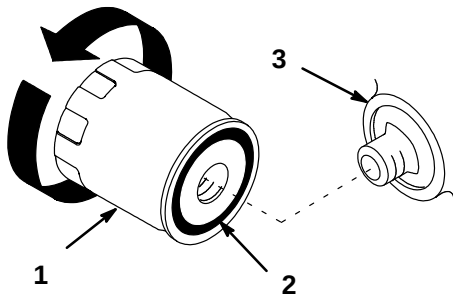

Figure 18
2. Remove the old filter and wipe the filter adapter (Fig. 18) gasket surface.
3. Apply a thin coat of new oil to the rubber gasket on the replacement filter (Fig. 18).
4. Install the replacement oil filter to the filter adapter. Turn the oil filter clockwise until the rubber gasket contacts the filter adapter, then tighten the filter an additional 1/2 turn (Fig. 18).